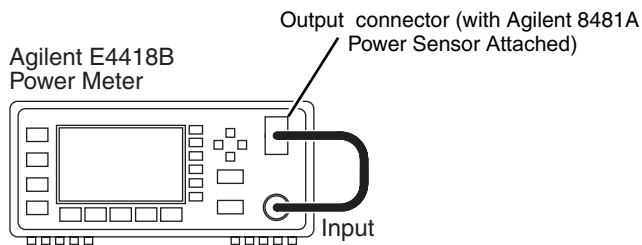

Figure 1-8. E4418B Power Meter Zeroing and Calibration Test Setup
- 1 Connect the Agilent 11730A Power Sensor Cable to the Agilent 8481A Power Sensor (see Figure 1-8).